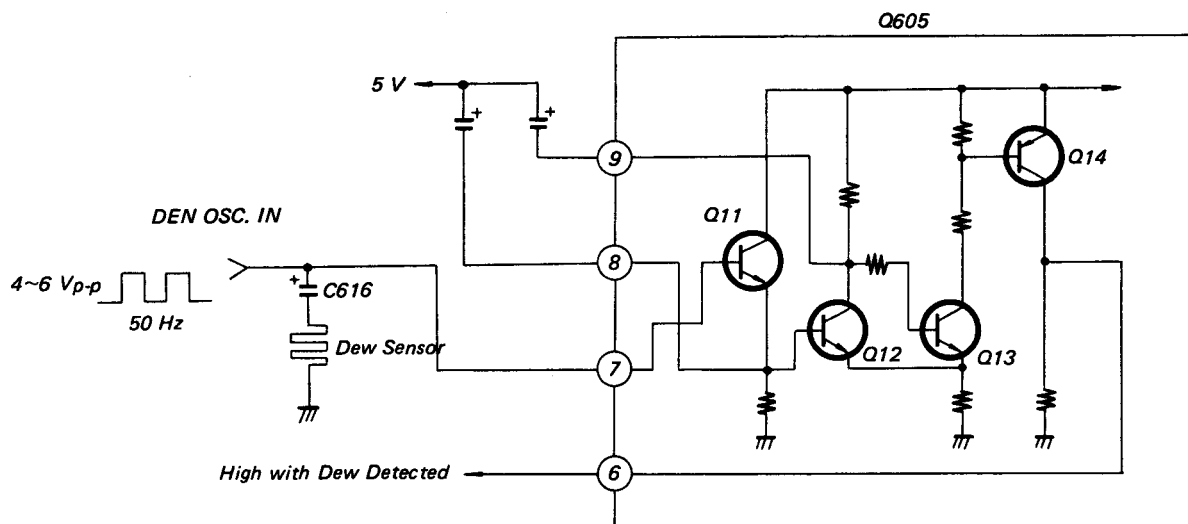

Fig. 3-72 Dew Detector Circuit
(2) Dew detector: As shown in Fig. 3-72, a 50 Hz, 4 Vp-p to 6 Vp-p pulse is applied to pin 7 on IC605. If dew is sensed, the resistance component of the dew sensor decreases. The result is that the amplitude of the pulse becomes low. The low pulse is connected through Q11 to the Schmitt trigger circuit, consisting of Q12 and Q13. When dew is sensed, Q12 is turned off and Q13 on. This turns Q14 on, which makes the output at pin 6 high.